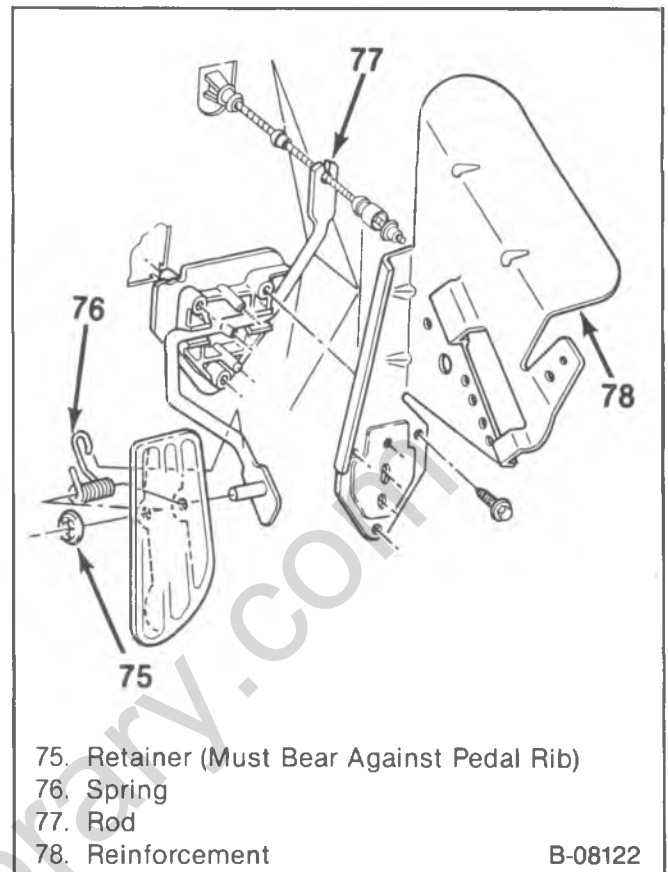

Figure 19—Accelerator Pedal Assembly
- Slip the accelerator control cable through the slot in the rod before installing the retainer in the rod. Make sure it is seated properly. Use care in pressing the retainer into the hole so the cable is not kinked or damaged (figure 19).